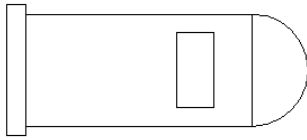

Figure 4-33: The completed steam boiler.
11. Save your drawing. It should look like Figure 4-33.